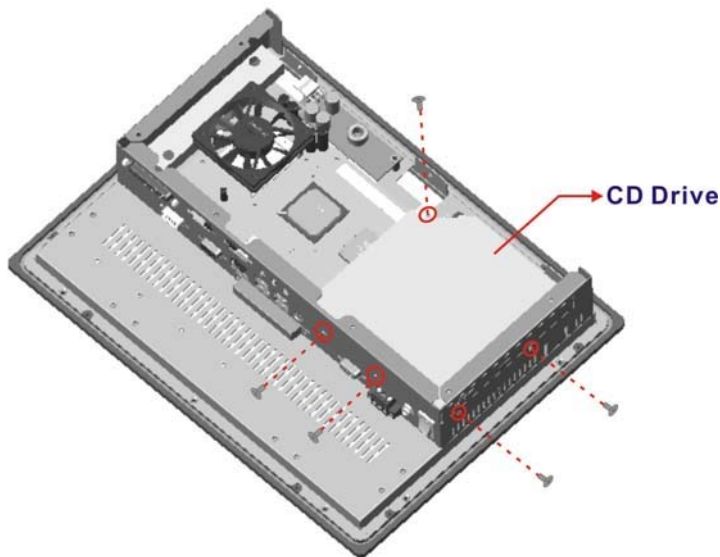

Figure 3-19: 2901250 CD Drive Retention Screws
Step 4: Install the CD drive into the 2901250 by aligning the retention screw holes in the sides of the CD drive bracket with the retention screw holes on the left panel, the bottom panel and inside the chassis (**Figure 3-19**). Insert the five retention screws.